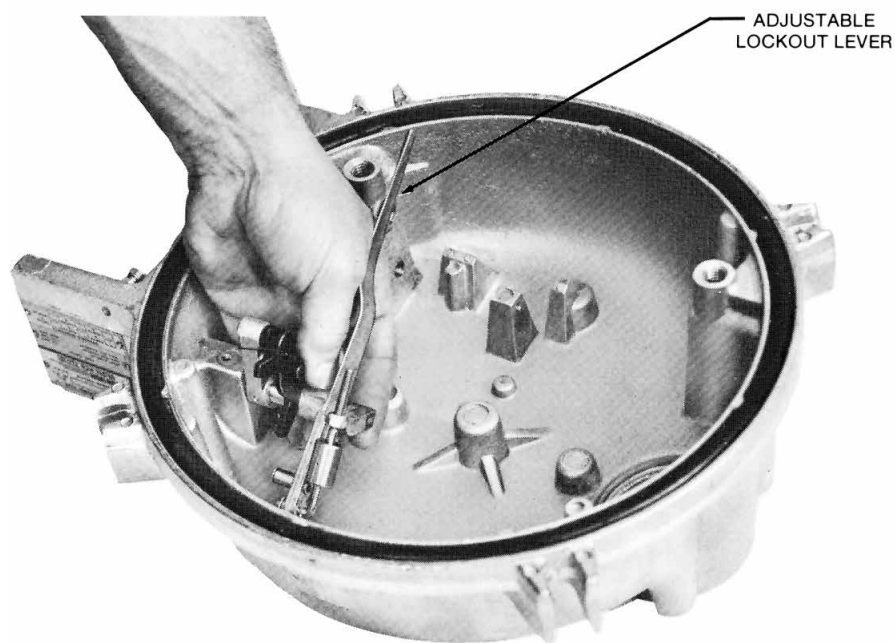

Figure 54. Lifting out adjustable trip lever
9. Slip off the adjustable lockout lever (Figure 54).
2. Position adjustable lockout lever (Figure 54).